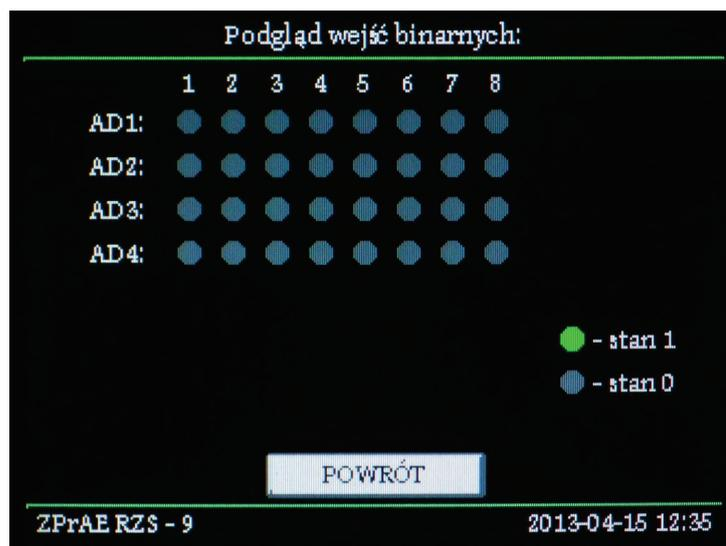

Fig. 2.7. Binary input preview screen.
- **BIN. INPUTS** – the button used to access a screen with visualization of logic states of binary inputs. A green light represents logic state „1”, while a grey one – „0” (fig. 2.7.)